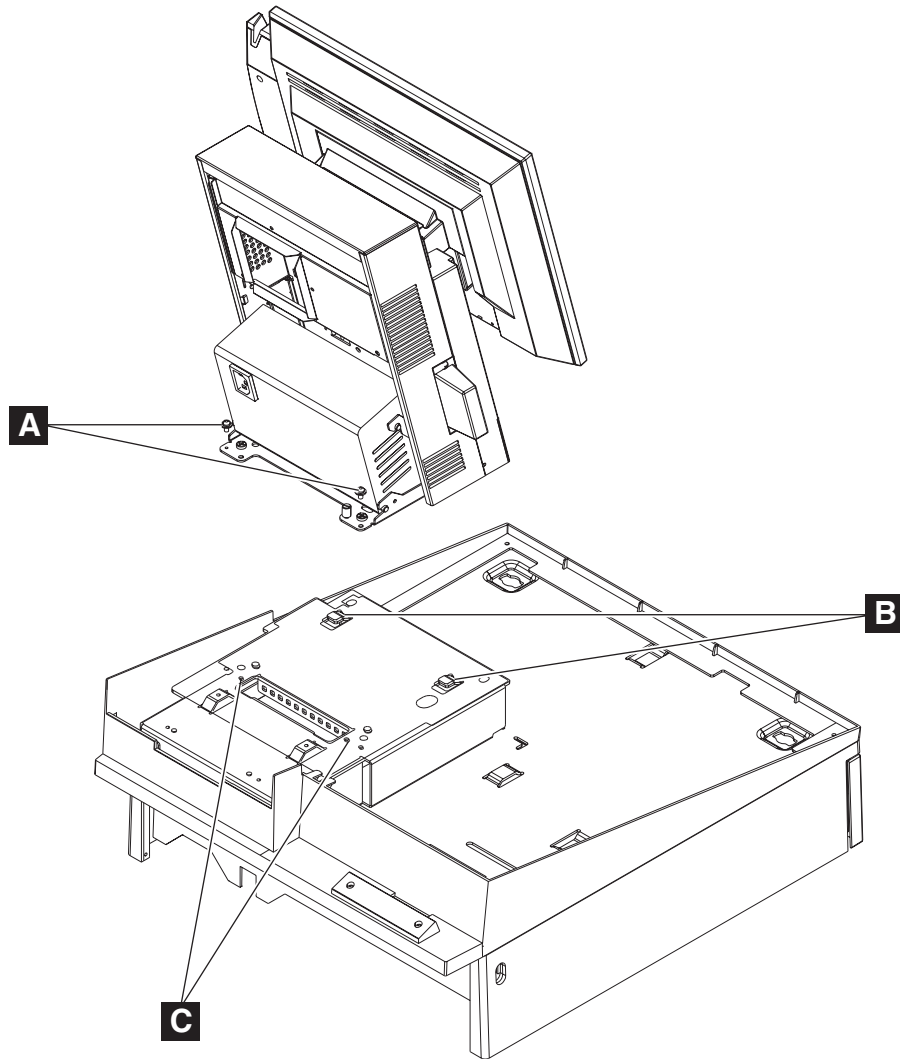

Figure 56. Installing the SurePOS 500 onto the integration tray
10. Attach the SurePOS 500 to the mounting plate as shown in Figure 56 on page 88. Slide the unit from the back toward the front until the frame fits into the